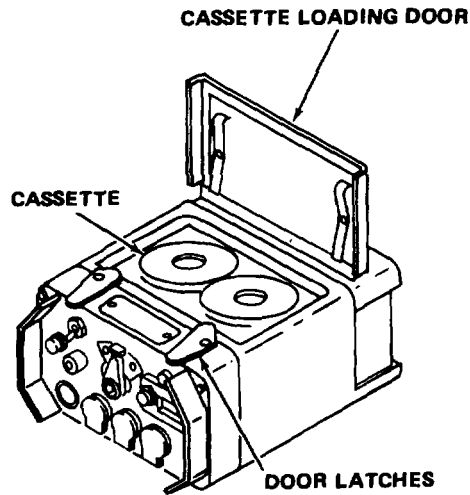

Figure 1-7. Sound Recorder/Reproducer AN/PNH- 7
d. Sound Recorder/Reproducer AN/PNH7. Refer to figure 1-7. Sound Recorder/Reproducer AN/PNH-7 is a miniature, portable, magnetic tape recorder/reproducer that records and plays back audio frequencies between 100 Hz and 4 kHz. Signal source may be operator comments, using a microphone, or signals from either radio receiver. The signal may be monitored by headphones or external equipment. All operating controls, switches, and indicators are located on the front panel. The recorder is powered by plug-in Battery Assembly BA-522/PNH-7 at the rear of the recorder. Refer to TM 32-5835-203-14&P for additional information.